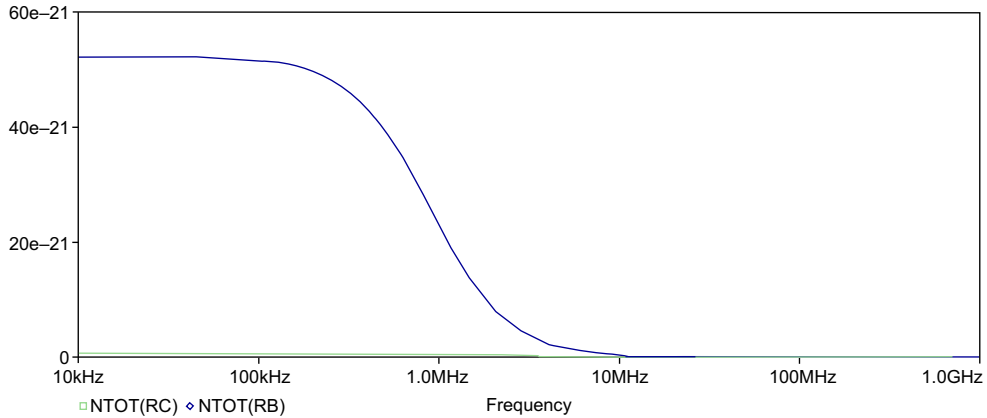

FIGURE 14.5
5. Add the trace for the noise contribution from the base resistor, NTOT(RB). Figure 14.5 shows that the larger base resistor contributes a larger noise contribution compared to the collector resistor.